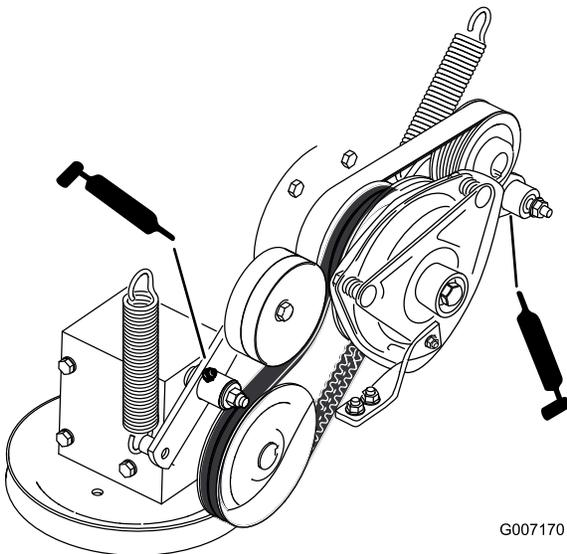

Figure 34
7. Grease the PTO drive belt idler arm (Figure 34).
8. Grease the pump belt idler arm (Figure 34).